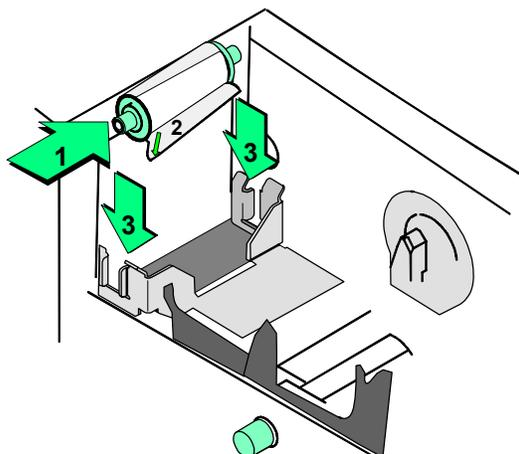

Figure 4-5: Replace the cleaning roller sleeve
- 7 Slide a new replaceable cleaning sleeve onto the spindle (step 1 in Figure 4-5).
- 8 Hold the replaceable cleaning roller spindle by the ends and remove the protective cover from the sleeve (step 2 in Figure 4-5). Discard the protective cover.
- 9 Continue to hold the spindle by the ends. Replace the spindle with sleeve in the printer (step 3 in Figure 4-5).